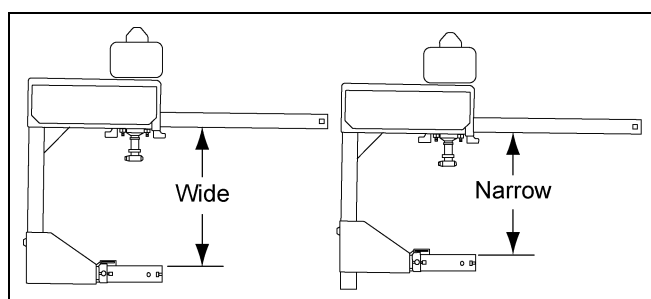
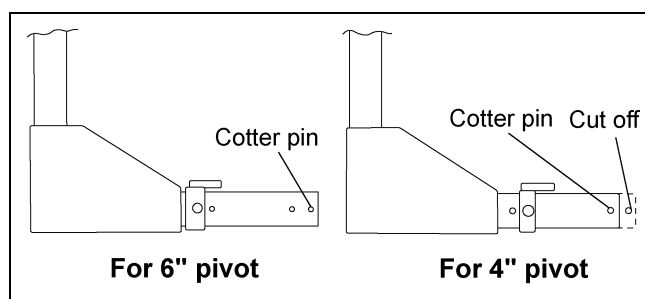

Figure 5C
Figure 5D
1. **Conversion Assembly:** Be sure the correct size pulley was ordered. To install it, remove the junction box covers and remove the 5/16" bolt. Slide the center drive arm out of the swivel and remove the upper snap ring and one washer. Slide the pulley onto the shaft with the hub up, then replace the washer and snap ring. (See Chart on Page 26.) Carefully slide the shaft up through the swivel so the wires are not pinched or nicked inside the swivel. Secure with the 5/16" hardware. Check the distance between the pivot tube and center of the drive pulley. Adjust it if needed by removing the two bolts in the rectangular tube. (See Chart on Page 26 and See Figure 5C to determine narrow or wide spacing.) Measure the inboard frame pivot, if it is 6" long, bolt the pivot stop in the back hole. If it is 4" long, bolt the pivot stop in the front hole, and cut off 1-1/4" of the pivot tube, leaving about 3/8" past the inside small hole for the cotter pin. (See Figure 5D.)